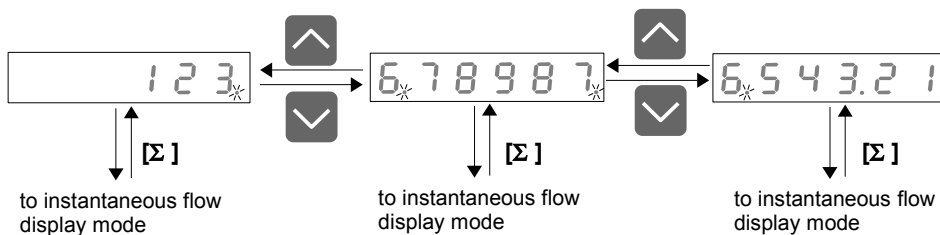

Figure 6.3. Switching between digits (screens) of total flow result.
- while medium digits are displayed both most left and most right decimal points are flashing (Figure 6.3). Most right decimal point signalizes than result has less significant digits – to see these digits press **[v]** button. Most left decimal point signalizes additional more significant digits. Press **[^]** button to see these digits.